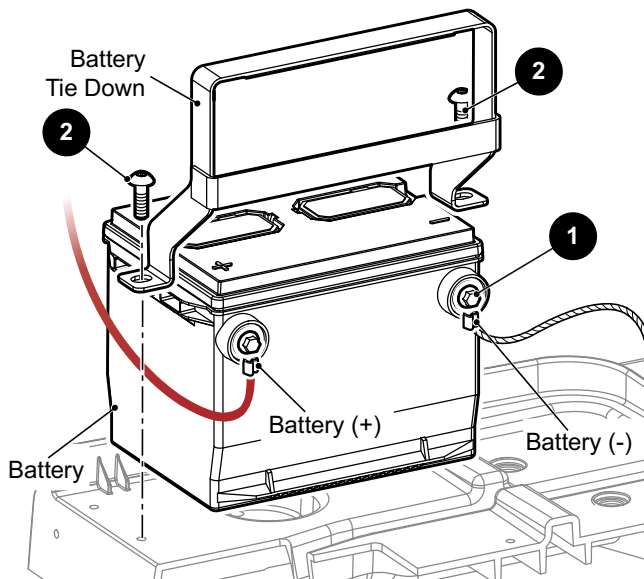

Figure. 1 Battery Removal
At the battery, remove the negative (-) cable before removing the positive (+) cable. Remove the screw (2) from the battery hold down and remove the battery (Figure. 1).